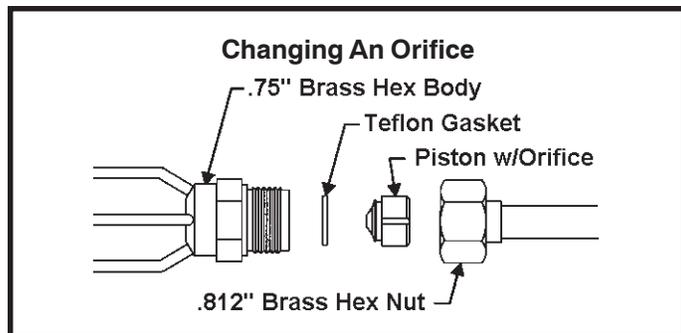

Figure 1
2. If a change of orifice is required, loosen the brass hex nut and separate the tube from the brass hex fitting (see Figure 1).